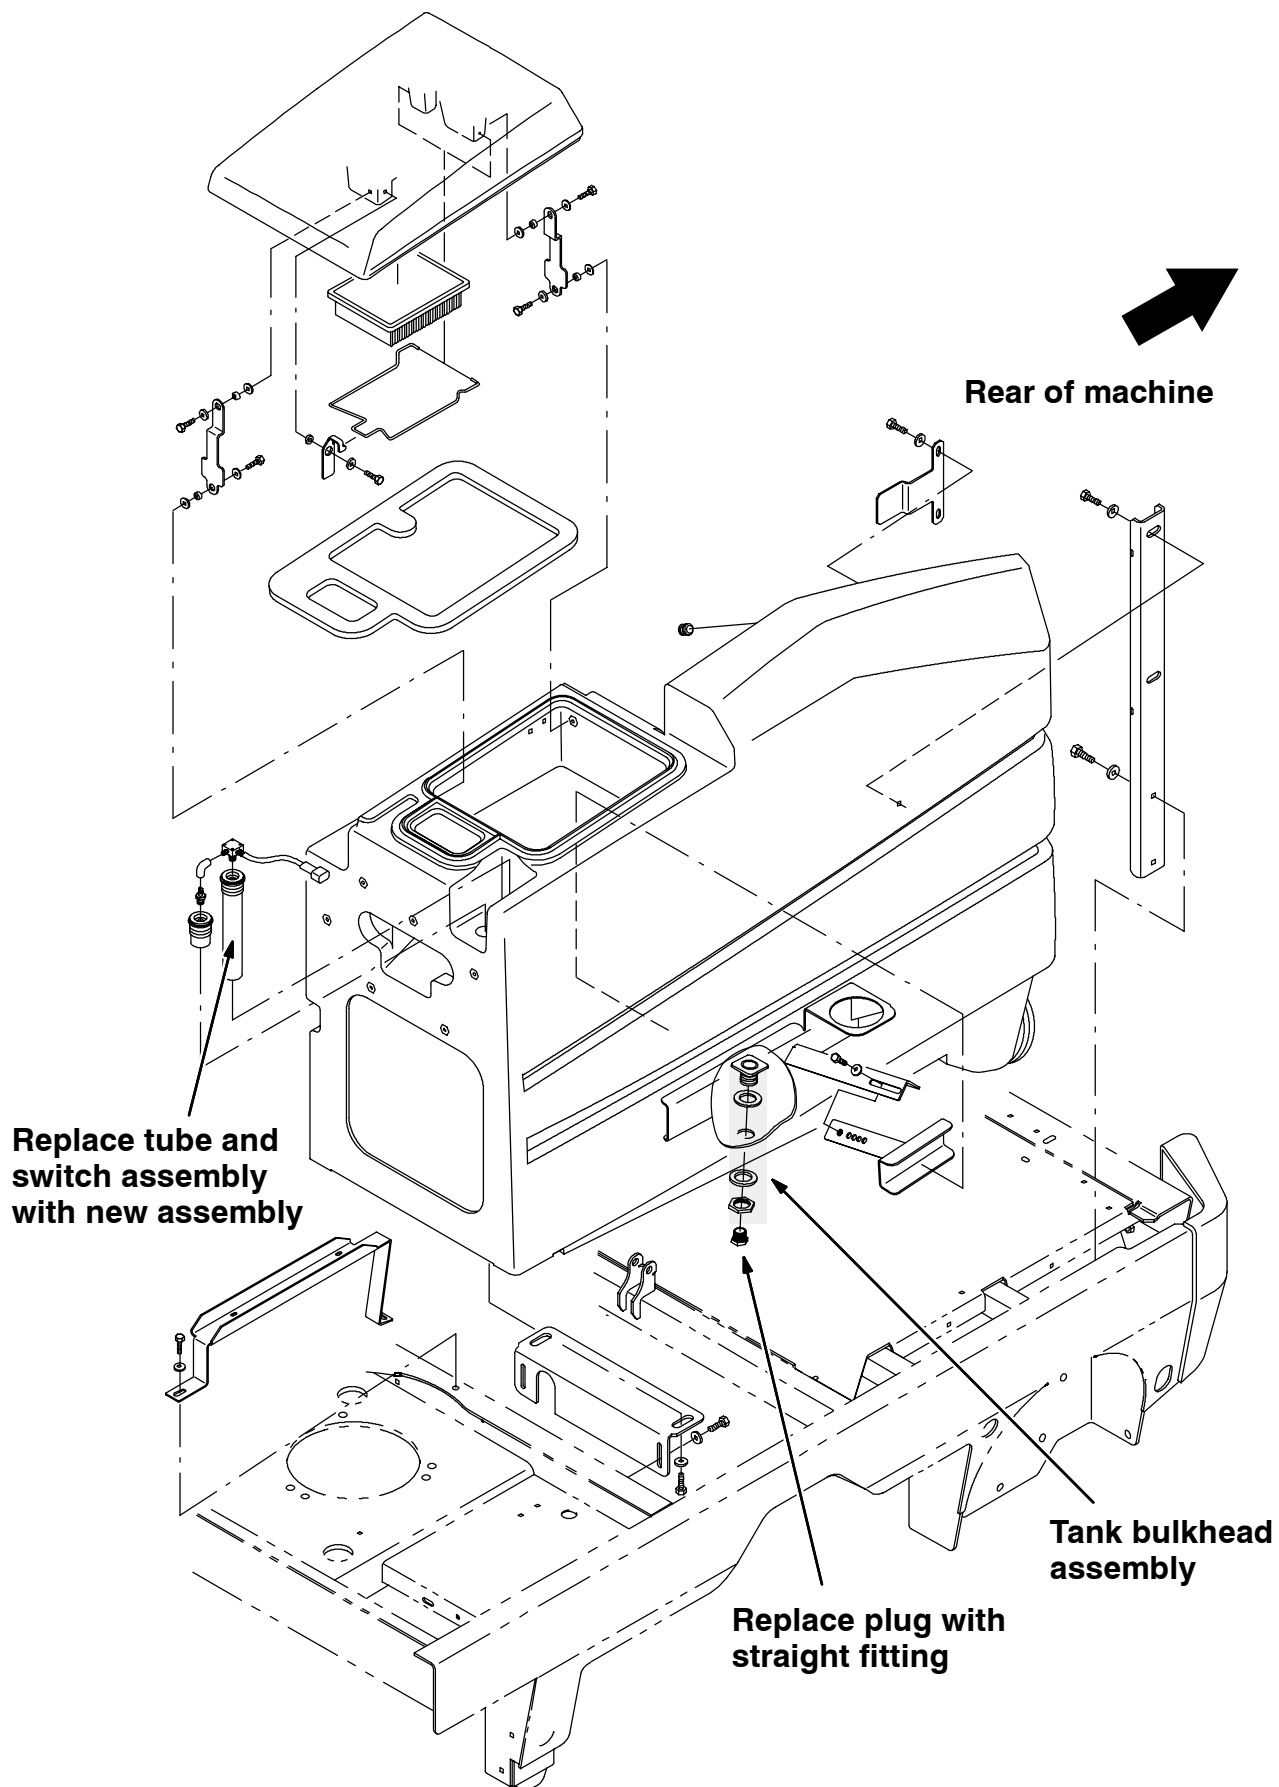
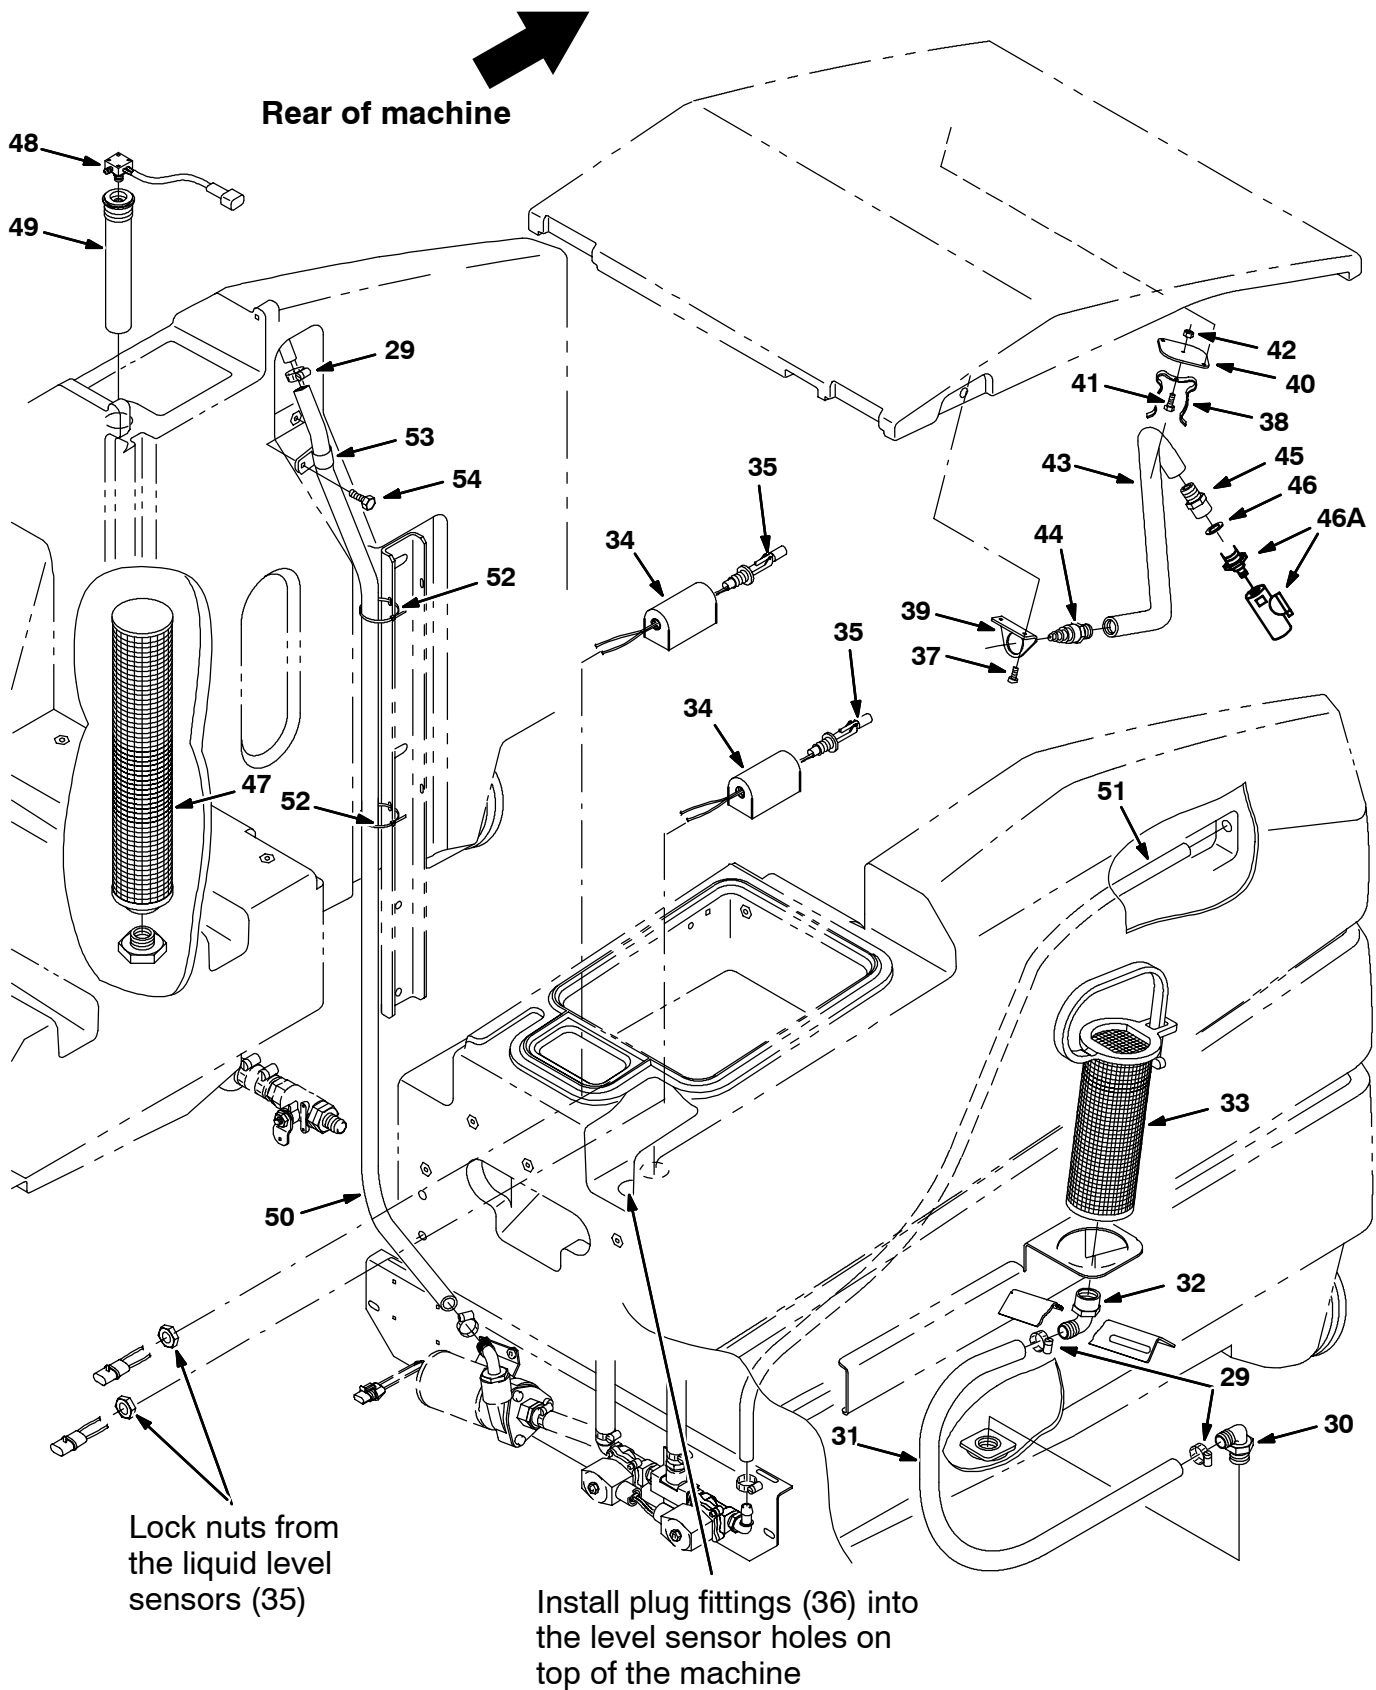
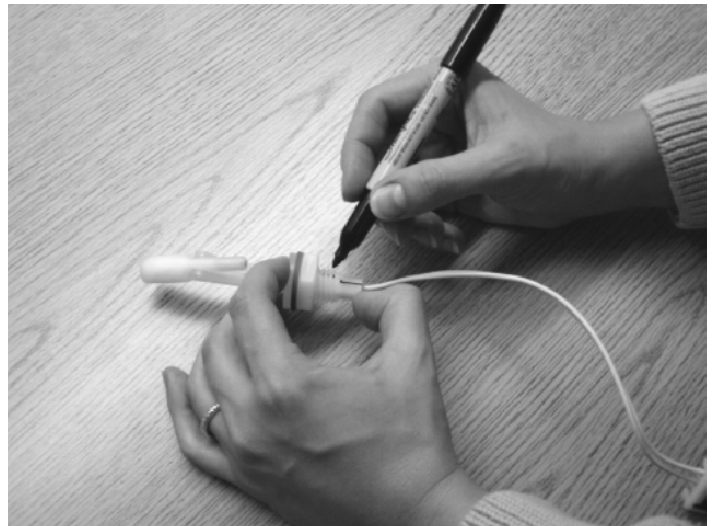

FIG. 2-Recovery Tank Group
FIG. 4-ES™ Tank Assembly
FIG. 17-FLOAT SWITCH ORIENTATION
(Refer to FIG. 2, FIG. 4, FIG. 16, and FIG. 17)
1. Remove the plastic plug fitting from the tank bulkhead underneath the recovery tank. (Refer to FIG. 2)
2. Disassemble the bulkhead fitting and rubber washers and remove from the recovery tank. (Refer to FIG. 2)
3. Connect the new 90° plastic elbow fitting (30) to the top portion of the removed bulkhead fitting. (Refer to FIG. 4)
4. Use a hose clamp (29) to connect one end of the 28" vinyl hose (31) to the 90° plastic elbow fitting (30). (Refer to FIG. 4)
5. Reinstall the bulkhead fitting in the bottom of the recovery tank. Use the newly attached vinyl hose (31) to help guide it back into position. (Refer to FIG. 4)
6. Guide the open end of the vinyl hose up through the strainer support frame in the recovery tank and connect to the second 90° plastic elbow fitting (32) with a hose clamp (29). (Refer to FIG. 4)
7. Thread the ES™ pump strainer (33) onto the second 90° plastic elbow fitting (32). Set the ES™ pump strainer (33) in the strainer support frame. (Refer to FIG. 4)
8. Disconnect and remove the 8" tube and switch assembly from the recovery tank. (Refer to FIG. 2)
9. Install two plastic plugs (36) into holes the old level sensor tube and plug came from on top the tank. (Refer to FIG. 4)
12. Remove the nuts from the liquid level sensors (35). **Do Not** discard the nuts from the liquid level sensors since they are needed to install the liquid level sensors. (Refer to FIG. 4)
13. Before installing the liquid level sensors (35): Hold the sensor, oriented in mounting position, and use a black permanent marker to draw a line across the top of the threads. (Refer to FIG. 17)
14. Route the wires from the level sensors (35) through the switch protector holes in the float switch protector brackets (34). (Refer to FIG. 4)
15. Install the connectors and locks onto the liquid level sensor (35) wire terminals.
16. Install the liquid level sensors (35) from the inside of the tank, running the wires through each hole. (Refer to FIG. 4)
17. Install the nuts onto the liquid level sensors (35). Do not tighten. (Refer to FIG. 4)
18. Position each sensor so the narrow end of the float mechanism is pointed up and the black mark drawn on the threads earlier is on the top in the 12:00 position. (Refer to FIG. 4)
19. Tighten the nuts onto the liquid level sensors (35). (Refer to FIG. 4)
20. Draw a small black line in the 12:00 position on the outside of each level sensor mounting hole. Regularly check to ensure the black marks on the liquid level sensors (35) and the machine remain aligned. The float may not work properly if the sensor is twisted or rotated when the red filter is being serviced.
21. Connect the upper liquid level sensor (35) to the main harness connector mark "FULL".
22. Connect the lower liquid level sensor (35) to the main harness connector mark "HALF".
10. Use a hose clamp (29) to connect the end of the 55" hose (50) to the top connection of the solution tank. (Refer to FIG. 4 and 9)
11. Secure the 55" hose (50) to the back of the solution tank with the cable clamp (53), hex screw (54), and cable ties (52). (Refer to FIG. 4, 9 and 10)
16. Remove the cap from the hole in the back side of the recovery tank and guide the rest of the 65" hose (51) into the hole. (Refer to FIG. 4 and 11)
20. Mount the clean-out wand to the mounting clamps for storage. (Refer to FIG. 4)
BILL OF MATERIALS FOR FIG. 4, ES TANK ASSEMBLY